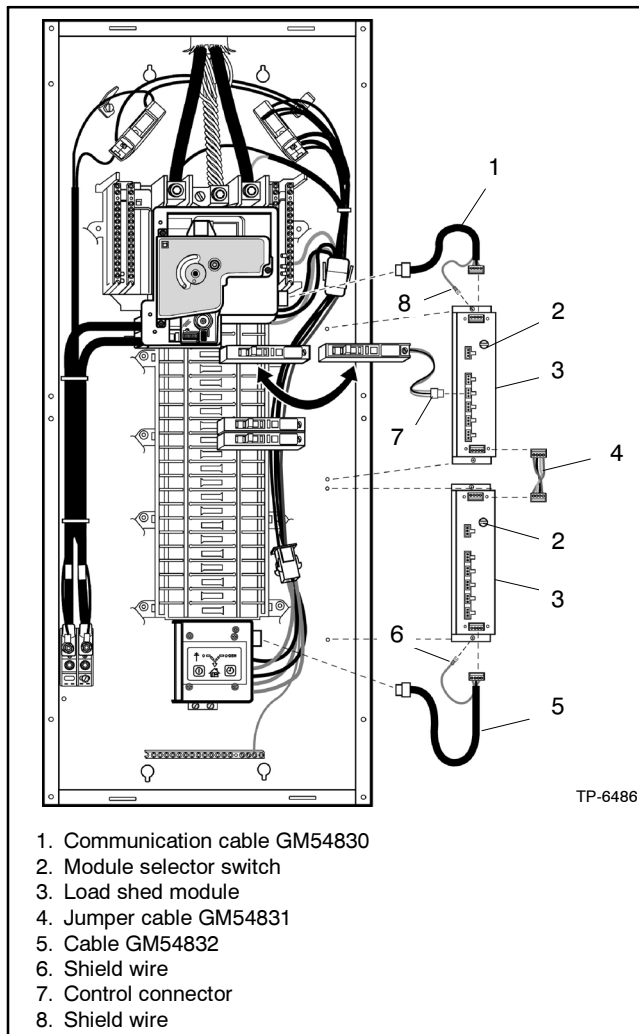
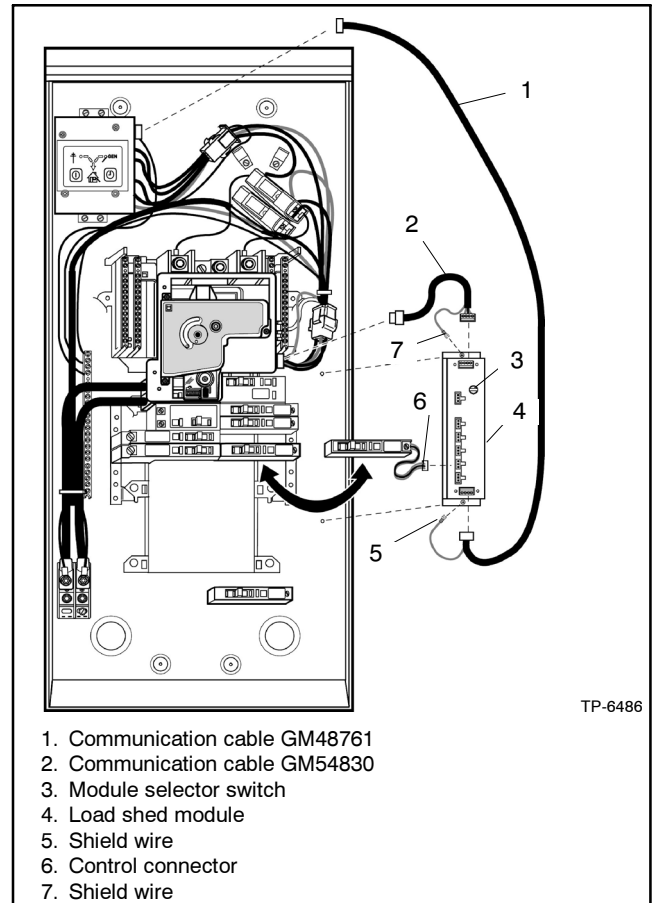

Figure 2-52 Load Shed Module Installation, Type 1 Enclosures
Figure 2-53 Load Shed Module Installation, Type 3R Enclosures
2. Place the load shed module in the load center as shown in Figure 2-52 or Figure 2-53 and loosely secure it with the two captive screws provided.
3. Referring to Figure 2-52 or Figure 2-53, install the communication cables provided with the load shed module:
- a. Slide the spade connector of the shield wire (Figure 2-52, item 6, or Figure 2-53, item 5) for cable GM54832 (Type 1) or cable GM48761 (Type 3R) between the mounting screw of the load shed module and the module housing as shown in Figure 2-52 or Figure 2-53. Secure the mounting screw, taking care not to crush the shield wire connector. Connect cable GM54832 (Type 1) or cable GM48761 (Type 3R) to the bottom connector of the load shed module and to terminal TB1 on the generator control unit.
- b. Slide the spade connector of the shield wire (Figure 2-52, item 8, or Figure 2-53, item 7) for communication cable GM54830 between the mounting screw of the load shed module and the module housing. Secure the mounting screw, taking care not to crush the shield wire connector. Connect cable GM54830 to the top terminal of the load shed module and to terminal J3 on the automatic transfer mechanism.
1. Before installing the circuit breaker, turn the circuit breaker handle to the OFF (O) position.
3. Plug the remote control circuit breaker control connectors into the load shed module (see item 7 in Figure 2-52 or Figure 2-53).